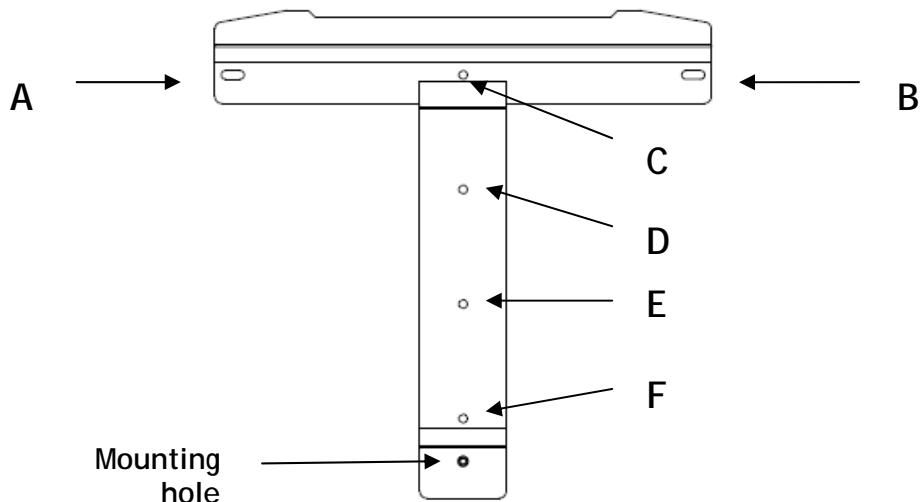

Figure 1: Mounting Bracket
1. Locate the wall studs in the desired location and align the mounting bracket over the studs. Mark the mounting holes. Ensure that locations A and B (see Figure 1) are aligned over the wall studs.
- Use an 1/8" screw to secure points C, D, E, and F (See Figure 1).